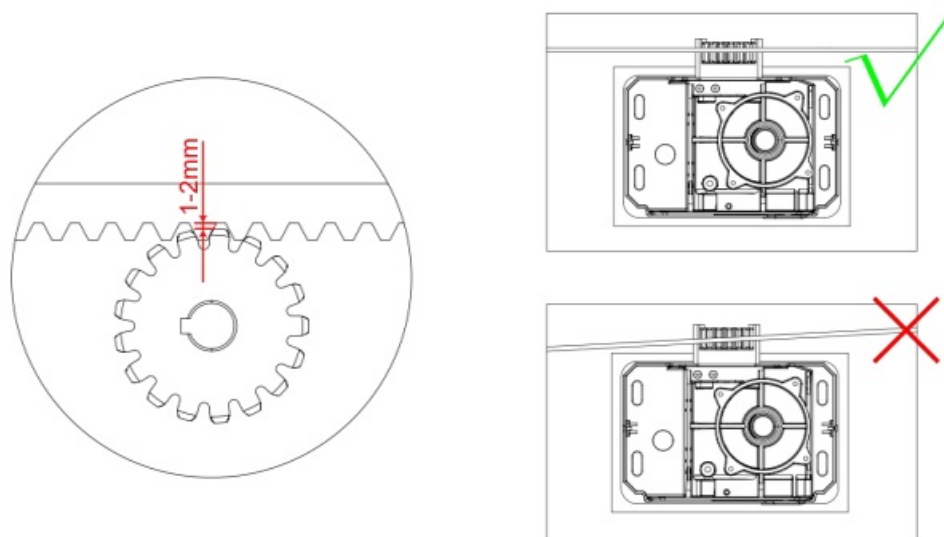

Figure 12
- Ensure that the output gear has a minimum clearance of 1-2mm along the entire length of the gear rack fitted to the gate (as per Figure 12)
- It is the task of the gate castors or wheels to carry the weight of the gate (as per Figure 12).